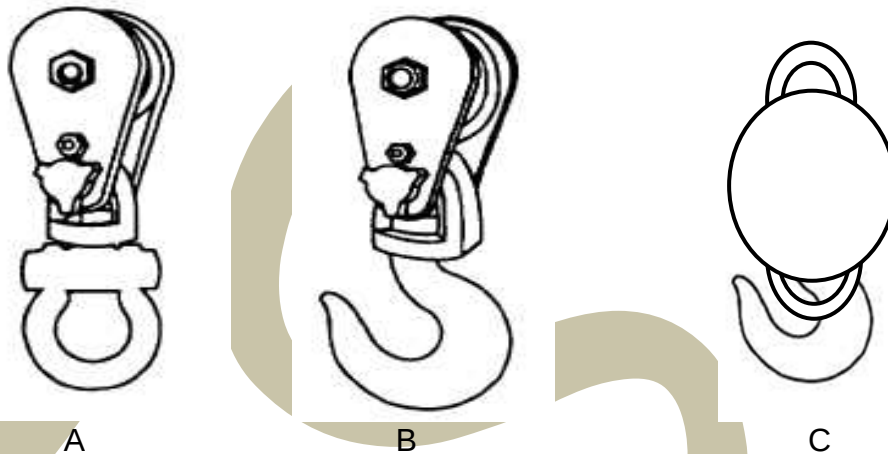

FIGURE 2
- 2.1 FIGURE 2 shows different types of snatch blocks used during a rigging process.